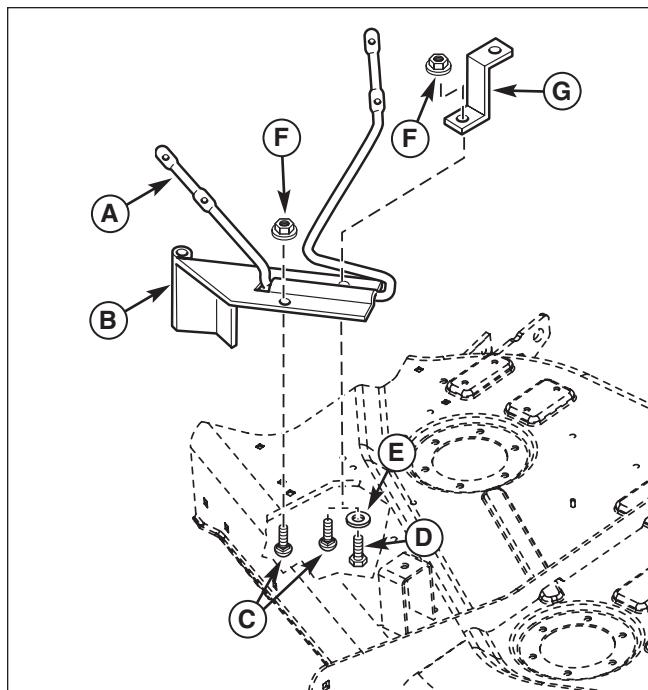
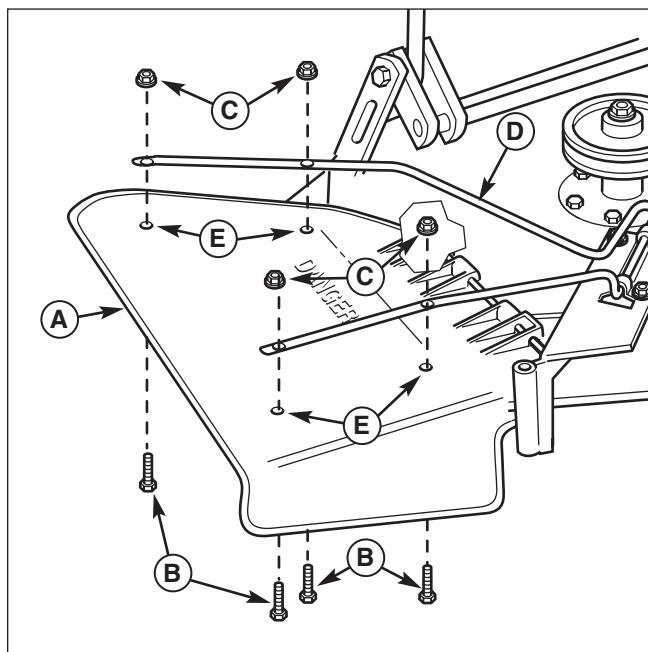

Figure 5. Install Deflector Hinge and Bracket
Figure 6. Install Deflector
1. Slide the deflector support rod (A, Figure 5) into pivot bracket (B) as shown.
2. Secure the front of the pivot bracket (B) using 5/16-18 x 3/4 carriage bolt and 5/16-18 nut (F).
3. **38" Mowers** - Secure the back of pivot bracket (B) and support (G) using 5/16-18 x 3/4 carriage bolt and 5/16-18 nut (F).
4. **44" and 50" Mowers** - Secure the back of pivot bracket (B) and support (G) using 5/16-18 x 7/8 capscrew, 5/16 washer (E) and 5/16-18 nut (F).
5. Drill four 13/64" holes from the bottom of the deflector (A, Figure 6) at the pre-molded drill hole locations (E).
6. Attach the deflector (A) to the rod (D) using the #10-24 screws (B) and #10-24 nuts (C).